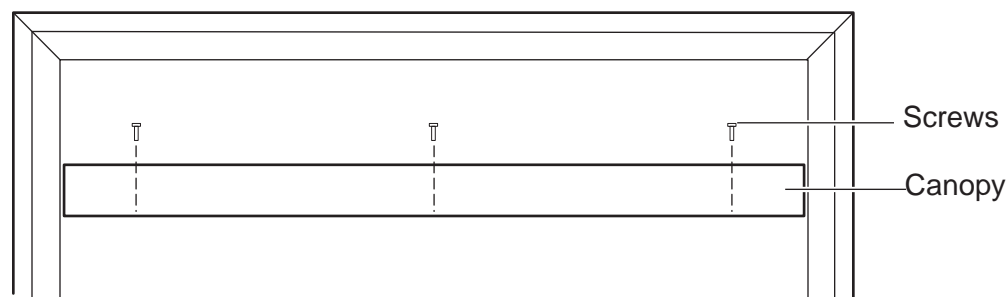

**Figure 14 - Removing Fireplace Screen Frame Panel**
3. Remove fireplace screen (See *Figure 14, page 14*) and logs.
1. Remove bottom louver. *See Figure 14.*
2. Removing fireplace screen frame panel by pushing screen frame panel up and out. *See Figure 14.*
Ensure that minimum clearances shown in *Figures 14 and 15* are maintained. Left and right clearances are determined when facing the front of the firebox.